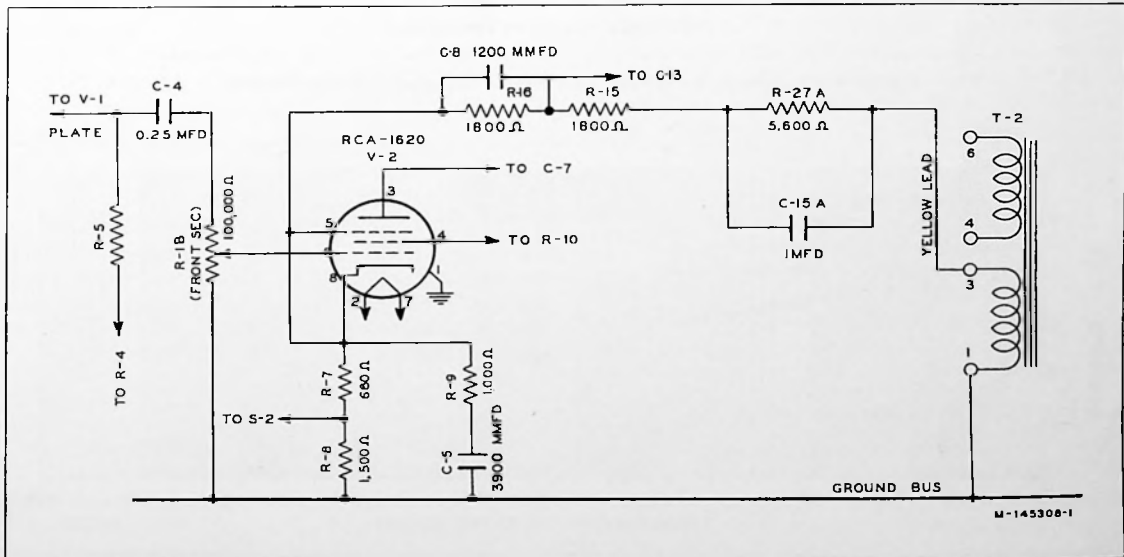

Figure 4—Partial Schematic Diagram Showing Changes for Compensation.
a. Disconnect the yellow lead from R-15 (on terminal No. 1 of terminal board 1) and connect this lead to a compensator composed of a 5600-ohm resistor and a 1-mfd capacitor (in parallel). Connect the other side of the compensator to R-15 on terminal No. 1 on terminal board 1. The compensator may be supported by a small terminal board mounted on the side wall of the chassis. The position in the circuit of the resistor and capacitor, identified as R-27A and C-15A is shown in figure 4 (they should have ratings of 1 watt and 200 vdc respectively).